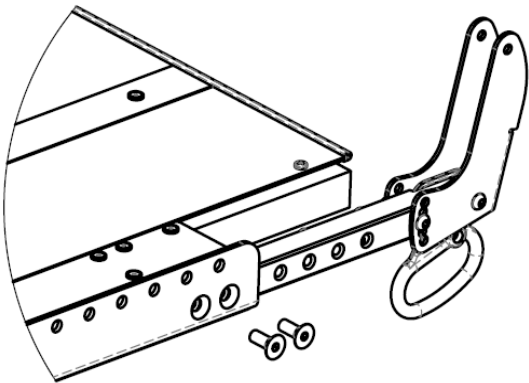

Figure 15.6: Adjusting the seat depth
- 1. Loosen and remove the two 5/16-18 flat head fasteners on each side (see Figure 15.6).